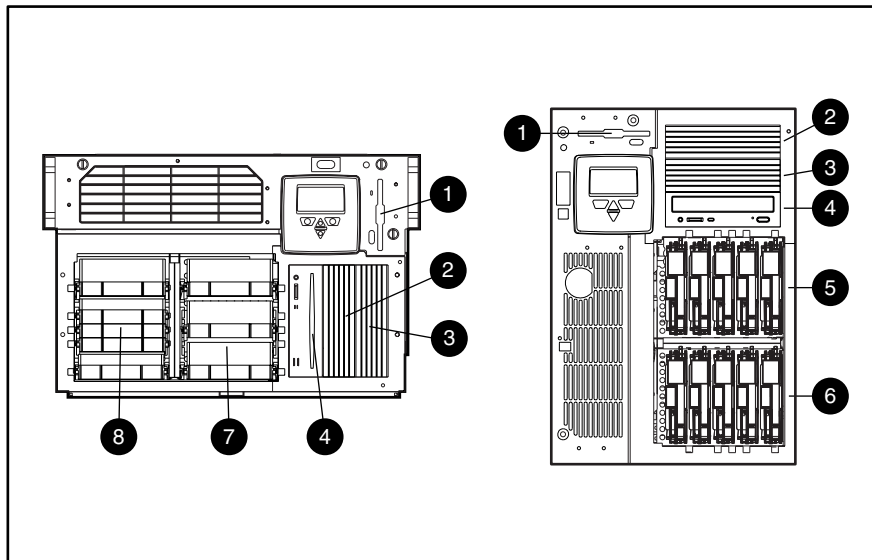

Figure 2-9. Server drive bay locations, rack, tower
**NOTE:** Compaq ProLiant 5500 and 5500R Servers ship as tower or rack models. Figure 2-9 shows both ProLiant models, and together with Table 2-1, shows the drive bay locations.